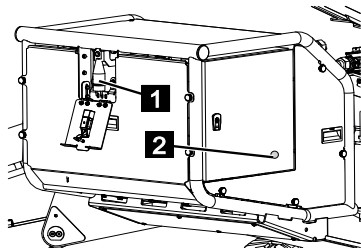

Fig. 67
1. Open the flap (Fig.67/1) and connect the extension cable to the connector. Observe the maximum cable lengths.